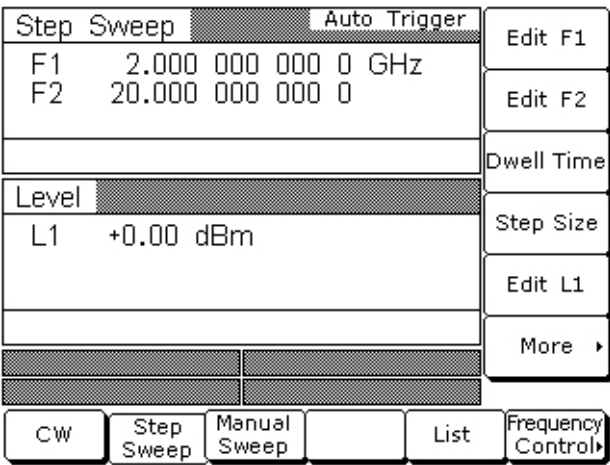

Figure 5-7. Dwell Time
h. At the Step Sweep menu, press Dwell Time to open the dwell-time-per-step parameter for editing (Figure 5-7).